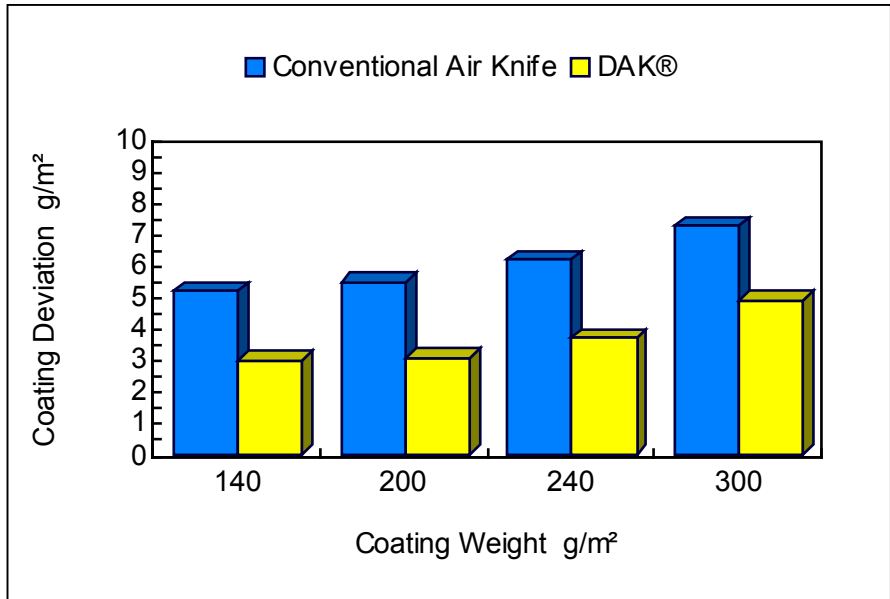

Figure 9. Coating Weight Comparison - VAI Dynamic Air Knife (DAK)
- Minimized coating deviation and zinc savings (**Figure 9**)